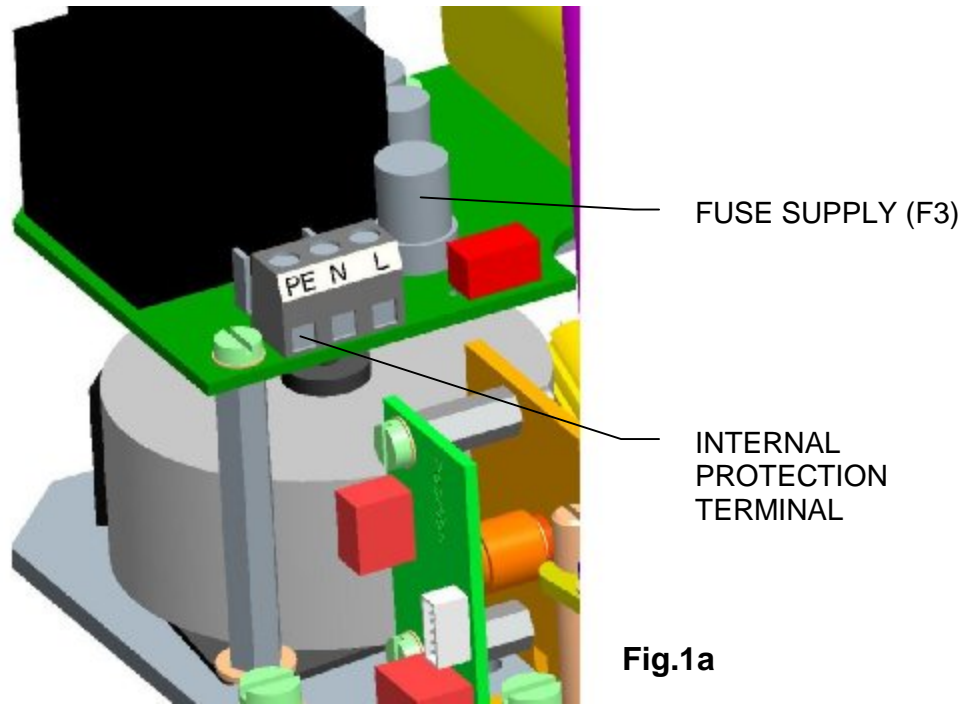
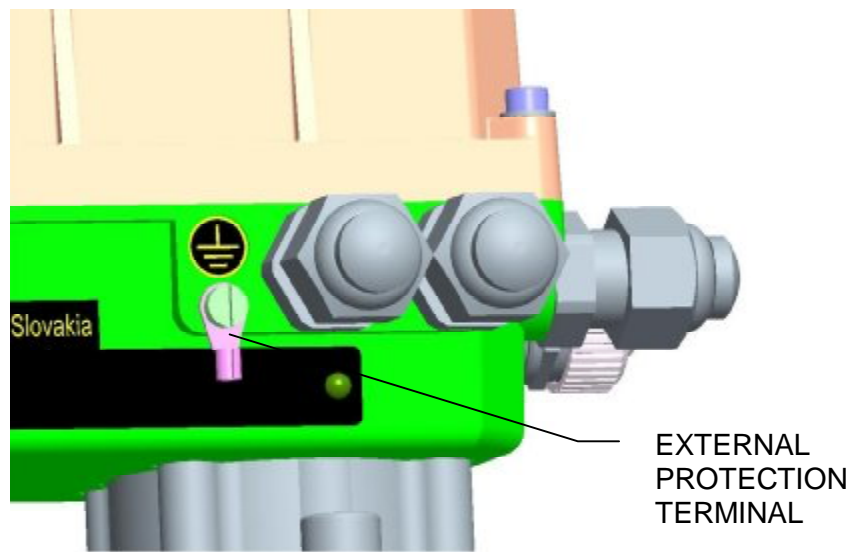

Fig.1a
Fig.1b
- for safety operation of the actuator use EA be unavoidable connect external and internal ground terminal. The position of the external a internal ground terminal can be seen in fig. 1a and fig. 1b. For forcing - in wires in external ground terminal be needed use pliers HP3 for insulated eyelet (firm CEMBRE).
Actuator power supply board is installed with power supply fuse (F3). Location of the fuse on the power supply board can be seen in **Fig.1a**.